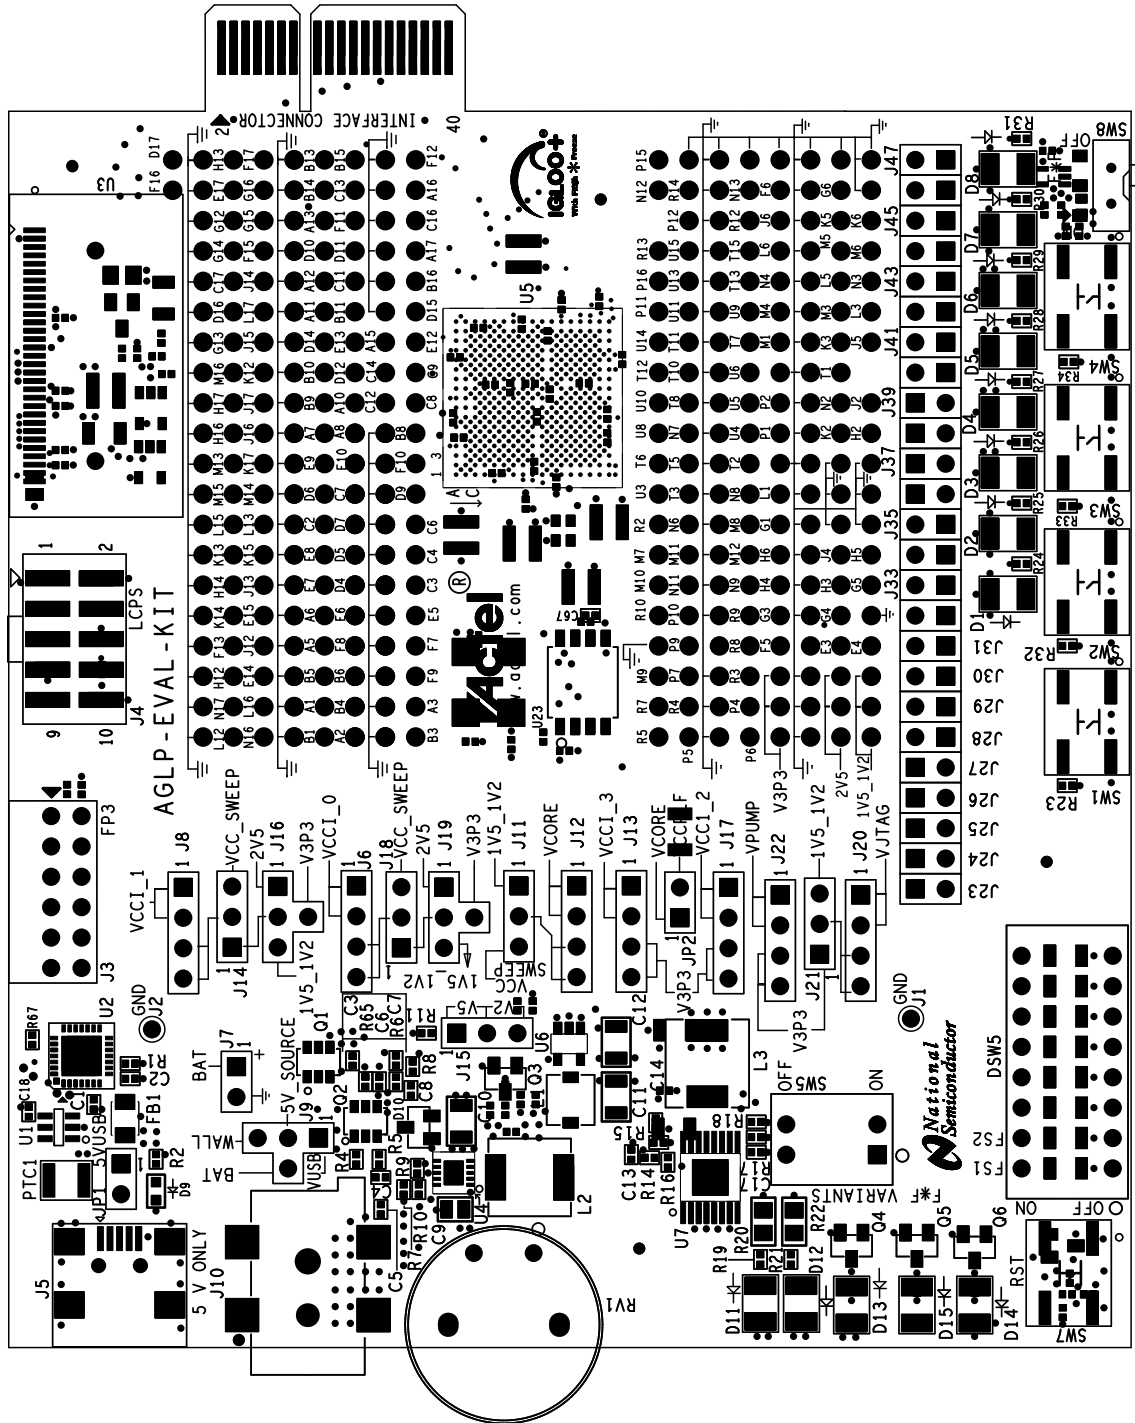
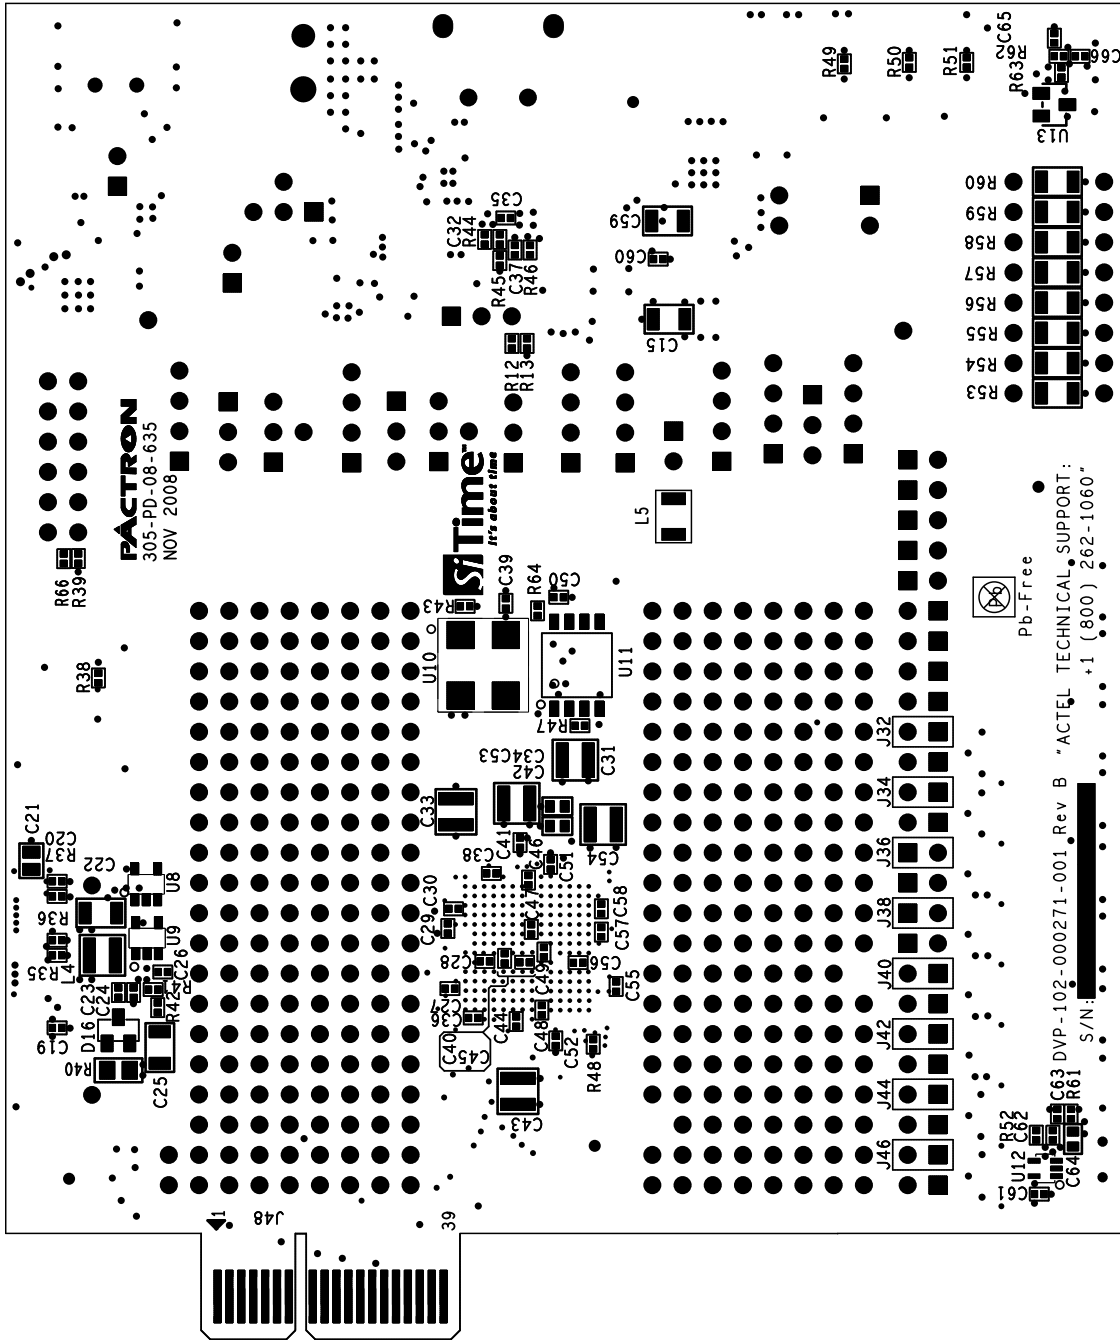

Figure 1-2 · IGLOO PLUS Top Silkscreen (L1)
Figure 1-3 · IGLOO PLUS Bottom Silkscreen (L10)
The IGLOO PLUS board is built on a 10-layer PCB. Figure 1-2 and Figure 1-3 on page 10 show the top (L1) and bottom (L10) silkscreens. The full PCB design layout is provided on the Actel website, on the IGLOO PLUS Starter Kit page: [http://www.actel.com/products/hardware/devkits\\_boards/iglooplus\\_starter.aspx](http://www.actel.com/products/hardware/devkits_boards/iglooplus_starter.aspx). To view the PCB design layout files, you can use the Allegro Free Physical Viewer, which can be downloaded from the Cadence Allegro Downloads page.
1. Top Signal (Figure 1-2 on page 9)
10. Bottom Signal (Figure 1-3 on page 10)